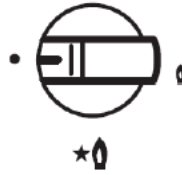

Fig. 8
- To light the hotplate push in the appropriate control knob and turn anti-clockwise to the large flame symbol (Fig. 8).